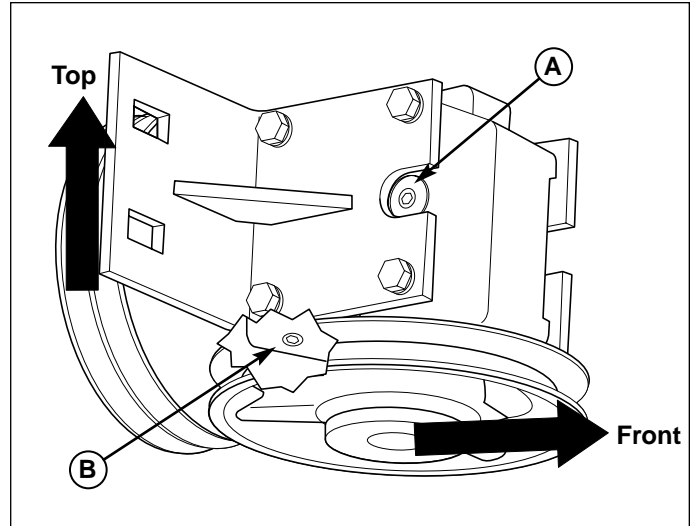

Figure 43. Gearbox Oil Level
1. Remove fill plug (A, Figure 43) on gearbox.